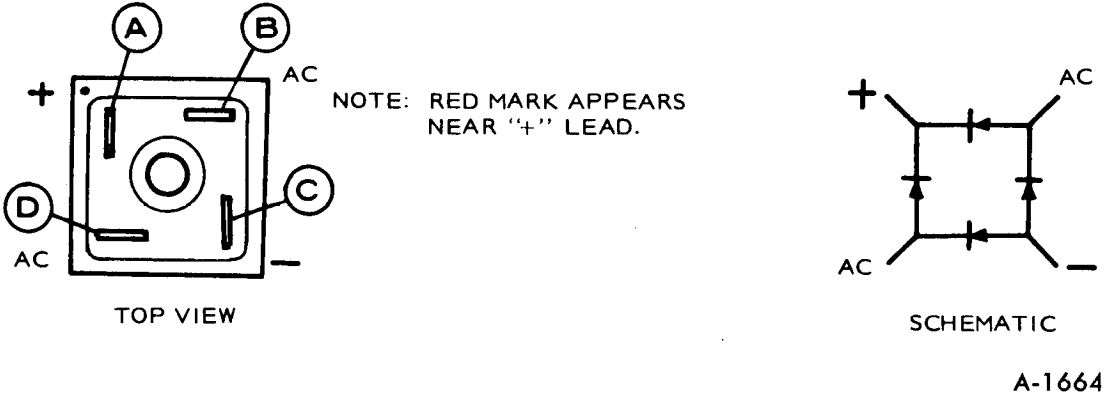

Figure 78-Testing Bridge Rectifier
5. Now place meter leads on points shown in Figure 78 and note readings from following table: